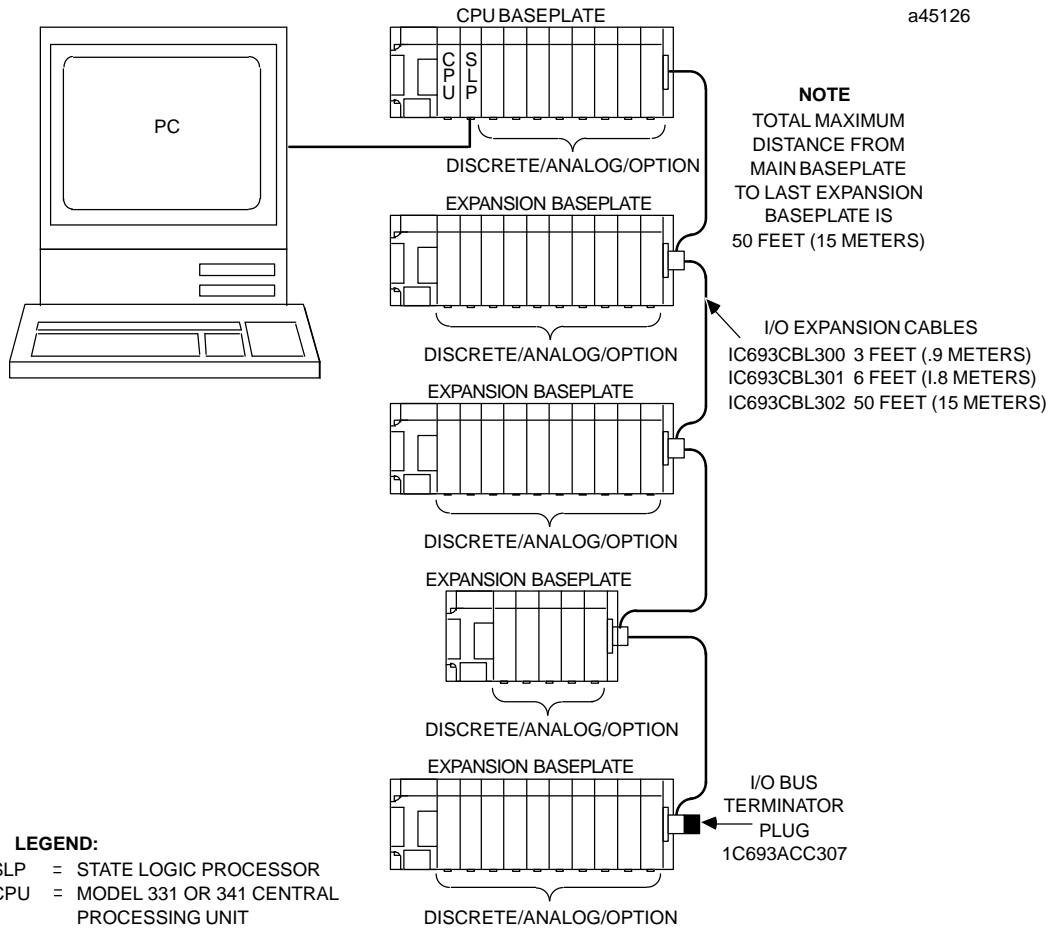

Figure 1. SLP Module in an IC693 PLC System Configuration
- Install the SLP Module in the baseplate. (Refer to figure 1)